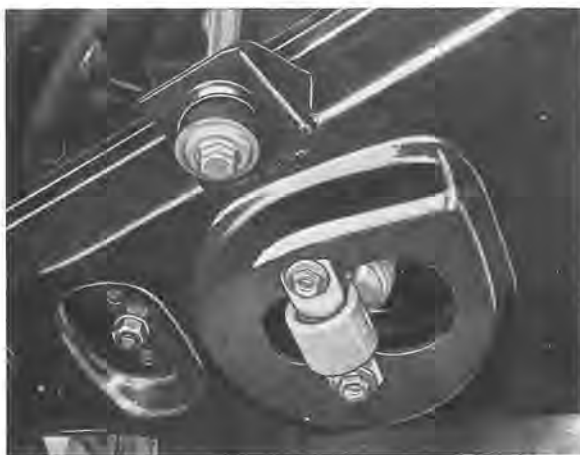

Fig. 7-8. Lower attachment, front shock absorber
The lower attachment (Fig. 7-8) consists of an eyelet provided with a rubber bush, which cannot be dismantled and a piece of tubular piping, the flattened ends of which are screwed to the bottom side of the lower control arm.
2. Remove the two lower attaching screws (Fig. 7-8)